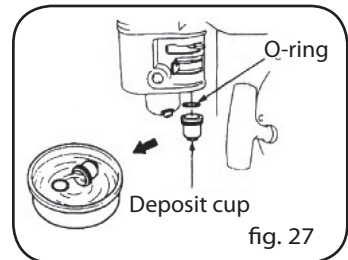

fig. 27
3. WASHING OF DEPOSIT CUP (Fig. 27)